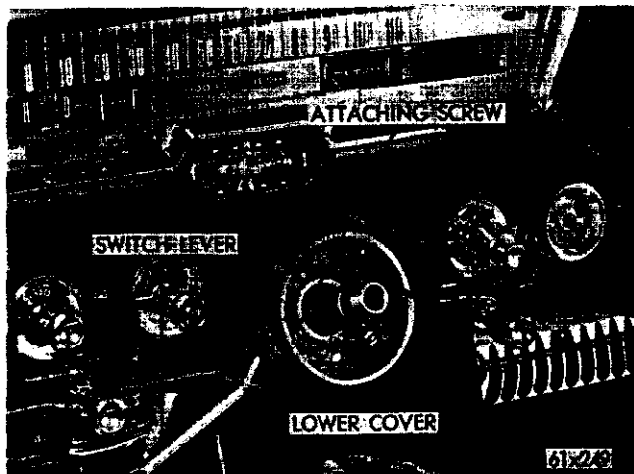

Fig. 26—Directional Switch and Lever—
(12) Remove the directional switch lever (Fig. 26).
(13) Remove the steering column lower cover.